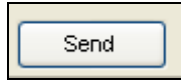

Figure 17.2.25
- Click on the **Send** button to send the Use Hold-Over data to the controller (Figure 17.2.25).